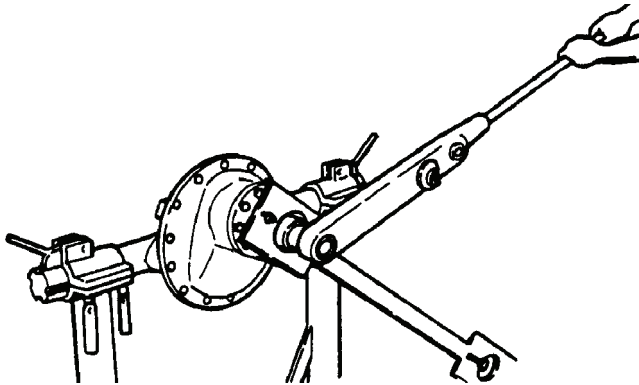

Figure 109.
- (1) Hold the flange or yoke with a suitable tool and remove the pinion shaft nut and washer. Figure 109.
- (2) Remove the flange or yoke with a suitable puller.